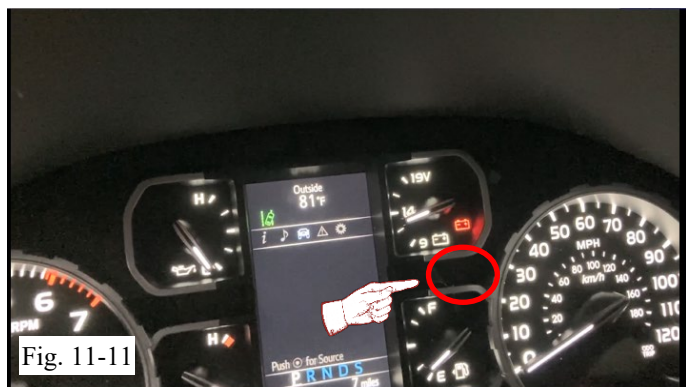

Fig. 11-11
- (n) The tire pressure indicator light will “blink” for approximately one minute, then the light will turn “solid” for approximately two minutes, then will turn off. (Fig. 11-11)